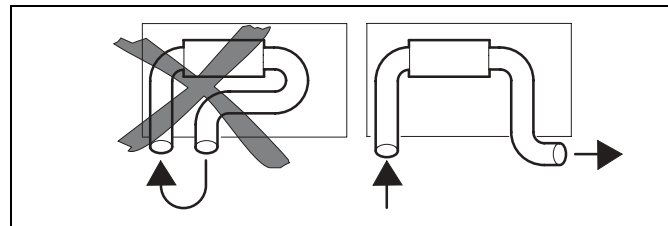

Fig 8: Hot air inlet and hot air outlet
- Air short circuit between the heater's air inlet and the heater's air outlet (Figure 8).